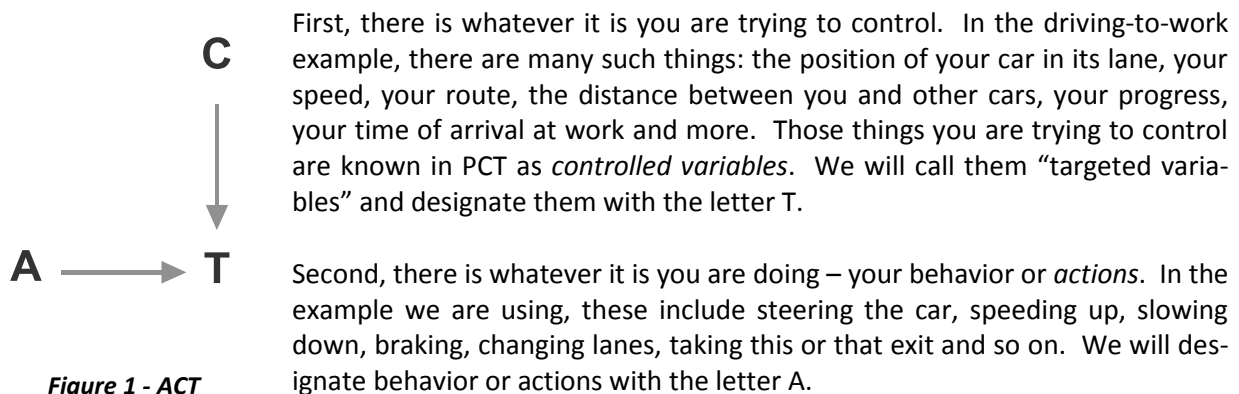
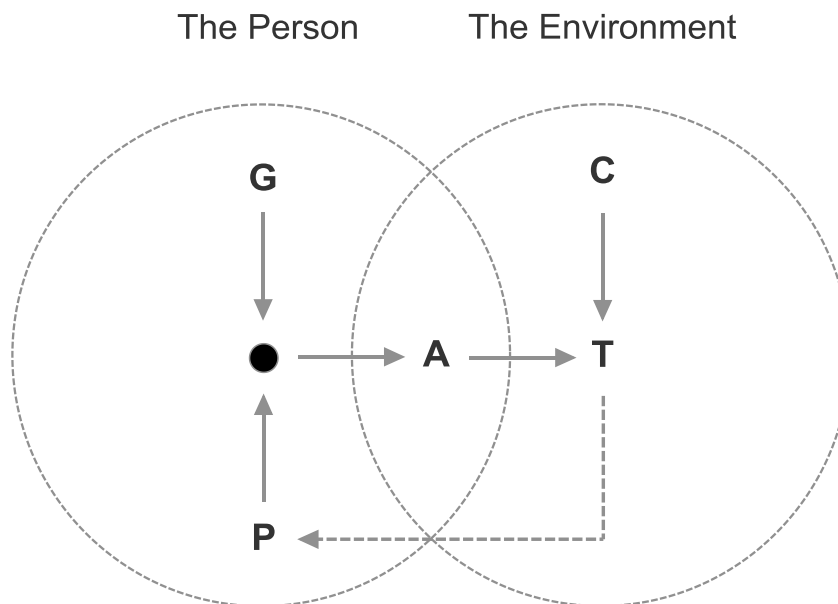

Figure 1 - ACT
Figure 3 – The GAP-ACT Model
These first three elements of PCT – targeted variables, actions and conditions are depicted in Figure 1.
Combining the two models shown in Figures 1 and 2 yields a third model shown in Figure 3. This model couples the two previous models via the lines entering and leaving actions (A) and the dotted line indicating feedback in the form of Perceptions (P) of the targeted variable we are trying to control (T). The model in Figure 3 also uses overlapping circles to identify and distinguish between the person and that person’s immediate environment.
Kurt Lewin's well-known declaration that "There is nothing so practical as a good theory" (Lewin, 1951, p. 169) applies to PCT. As evidence, consider this: I have published several articles showing how the GAP-ACT model in Figure 3 has been applied to solving problems of performance in the workplace (Nickols, 2009, 2010, 2011a, 2011b). PCT is indeed an eminently practical theory.